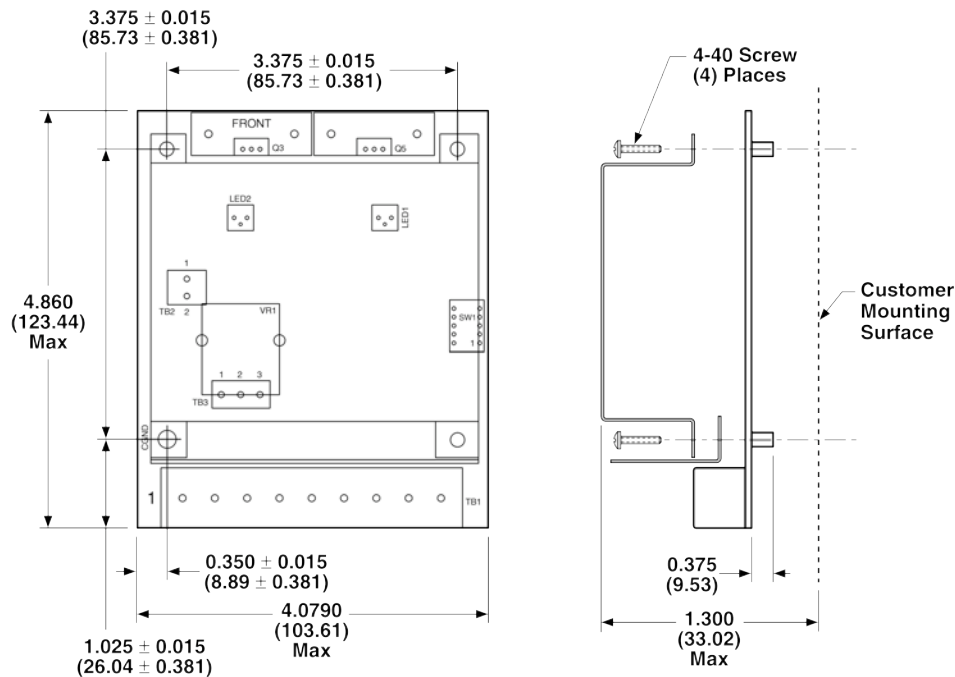

Figure 2
- ❑ 2. Layout the mounting hole dimensions and drill holes and taps using a 4-40 tap. (Figure 2)
- ❑ 3. If the CBC-200-C1, CBC-200-C2 or CBC-200-C3 controls are used, wire the external potentiometers to the appropriate terminal blocks. (See Figure 2)